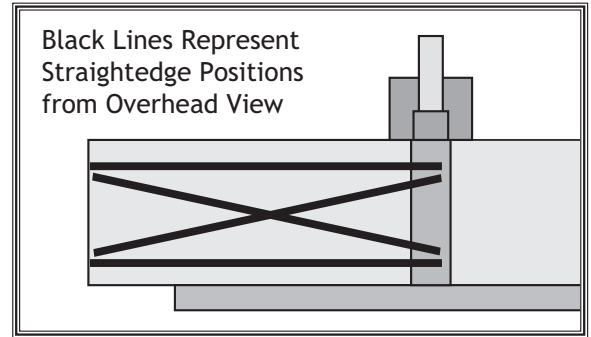

Figure 43. Straightedge positions for checking outfeed table parallelism.
- Place straightedge in one of the positions shown in **Figure 43**.